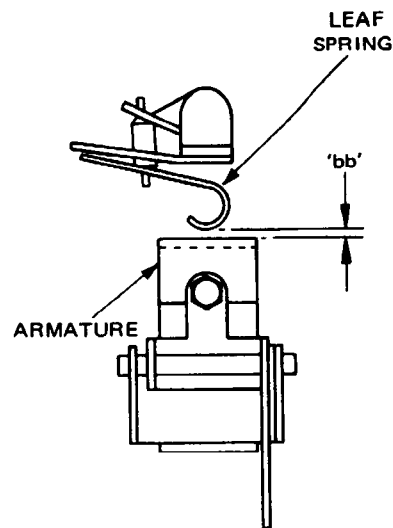
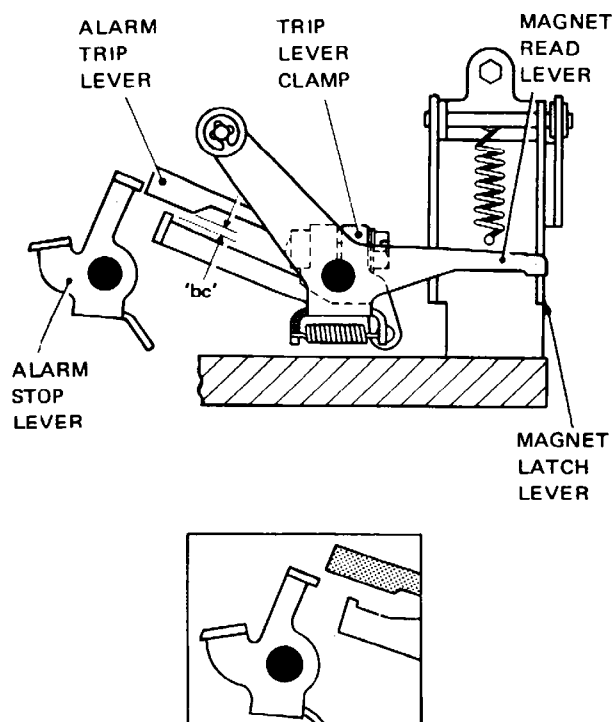

Fig. 4.57 TAUT-TAPE LEAF SPRING
Fig. 4.58 ALARM TRIP LEVER MECHANISM
- 64.1 With the magnet read lever resting on the arm of the magnet latch lever, as shown in Fig. 4.58, check that the gap between the taut-tape leaf spring (Fig. 4.57) and the open armature (dimension 'bb') is 0.005–0.012 inch.
- 65.1 Load a short length of all-mark tape into the unit. With the unit in the rest condition, ensure that the magnet read lever, Fig. 4.58, is fully latched up by the magnet latch lever. Check that there is now a clearance of 0.005–0.015 inch (dimension 'bc') between the alarm trip lever and the magnet read lever.